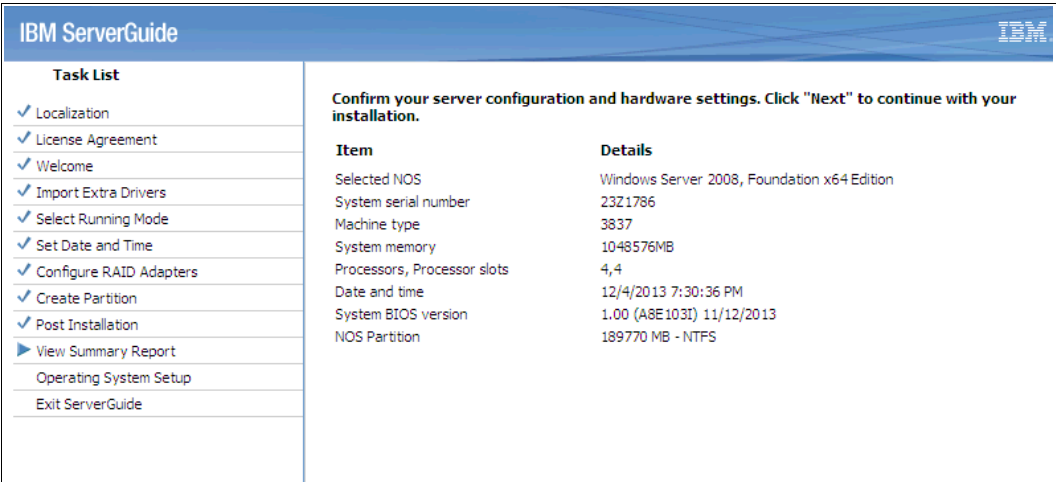

Figure 6-37 Summary report
15. Review the configuration summary, as shown in Figure 6-37. Then, click **Next**.